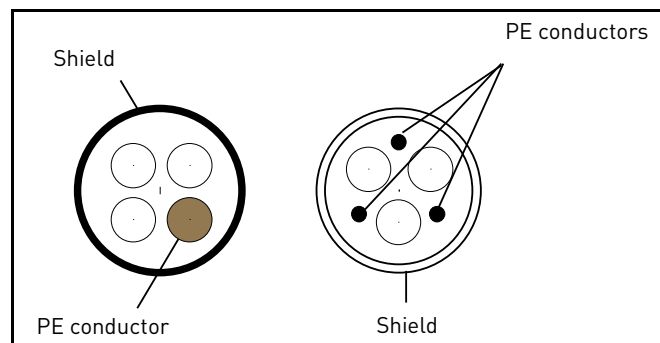

Figure 16.
- 2 = Symmetrical power cable equipped with concentric protection wire and intended for the specific mains voltage. (MCMK or similar recommended). See Figure 16.
- 3 = Symmetrical power cable equipped with compact low-impedance shield and intended for the specific mains voltage. [MCCMK, EMCMK or similar recommended; Recommended cable transfer impedance (1...30MHz) max. 100 mOhm/m]. See Figure 16.